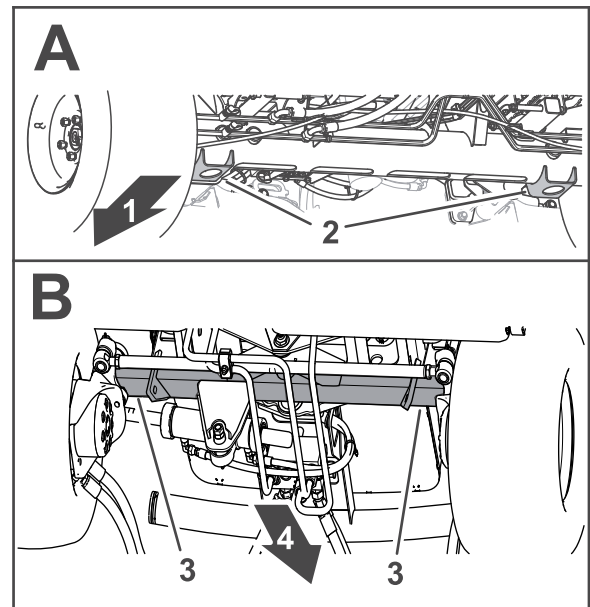

Figure 38
- Front—the jack brackets of the front-axle tube (Figure 38).